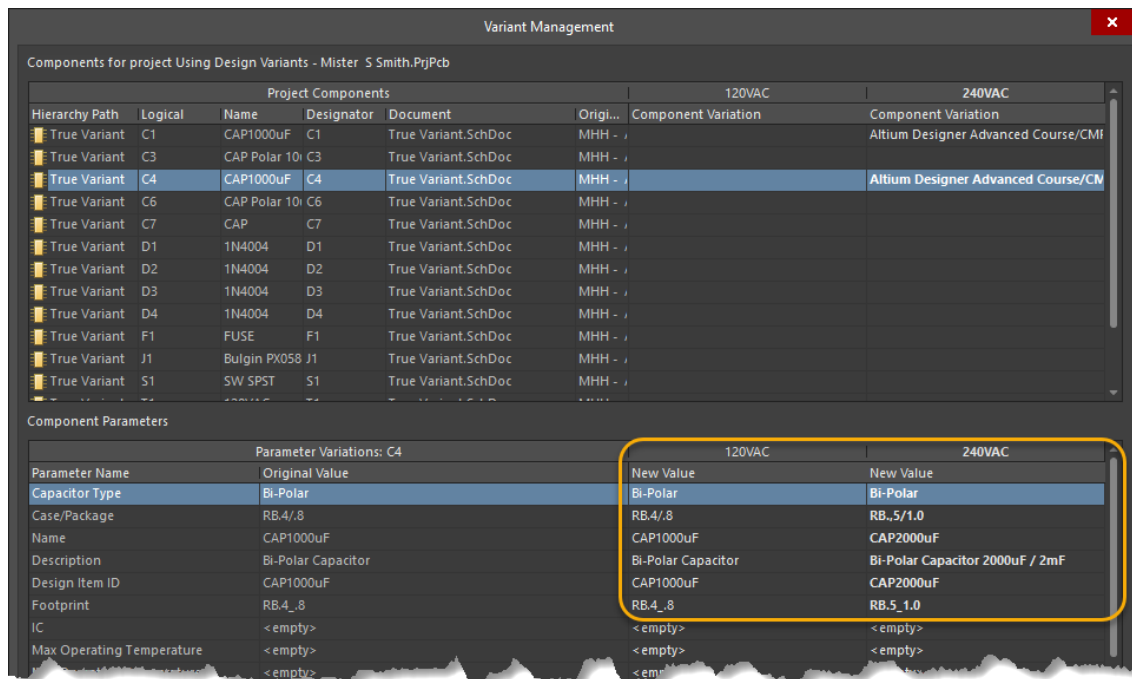

Figure 15. Alternate Part Assignment
56. Make sure the 120VAC column has C1 and C4 assigned to 1000uF capacitors, and the 240VAC column has them assigned to 2000uF, as shown in Figure 15.